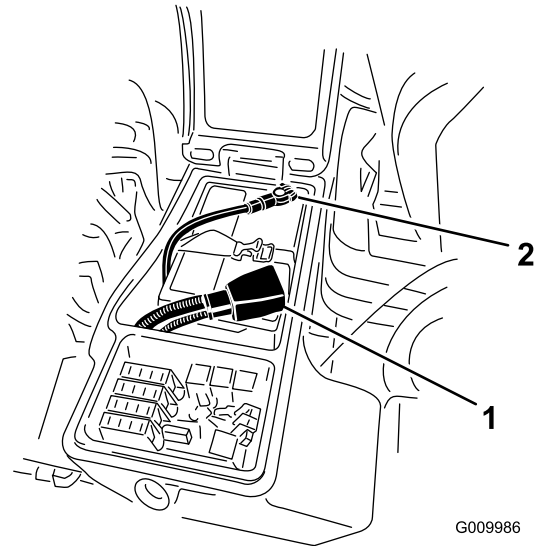

Figure 66
3. Remove the negative cable (black) from the negative (-) terminal and the positive cable (red) from the positive (+) terminal of the battery (Figure 66).
6. Install the positive cable (red) to the positive (+) terminal and the negative cable (black) to the negative (-) terminal of the battery (Figure 66).